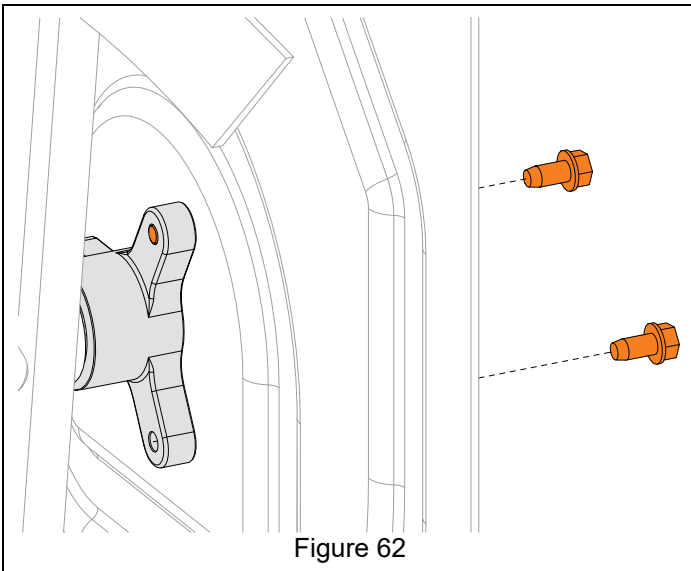

Figure 62
7. Secure support bushings to auger housing with six tapping screws. See Figure 62.